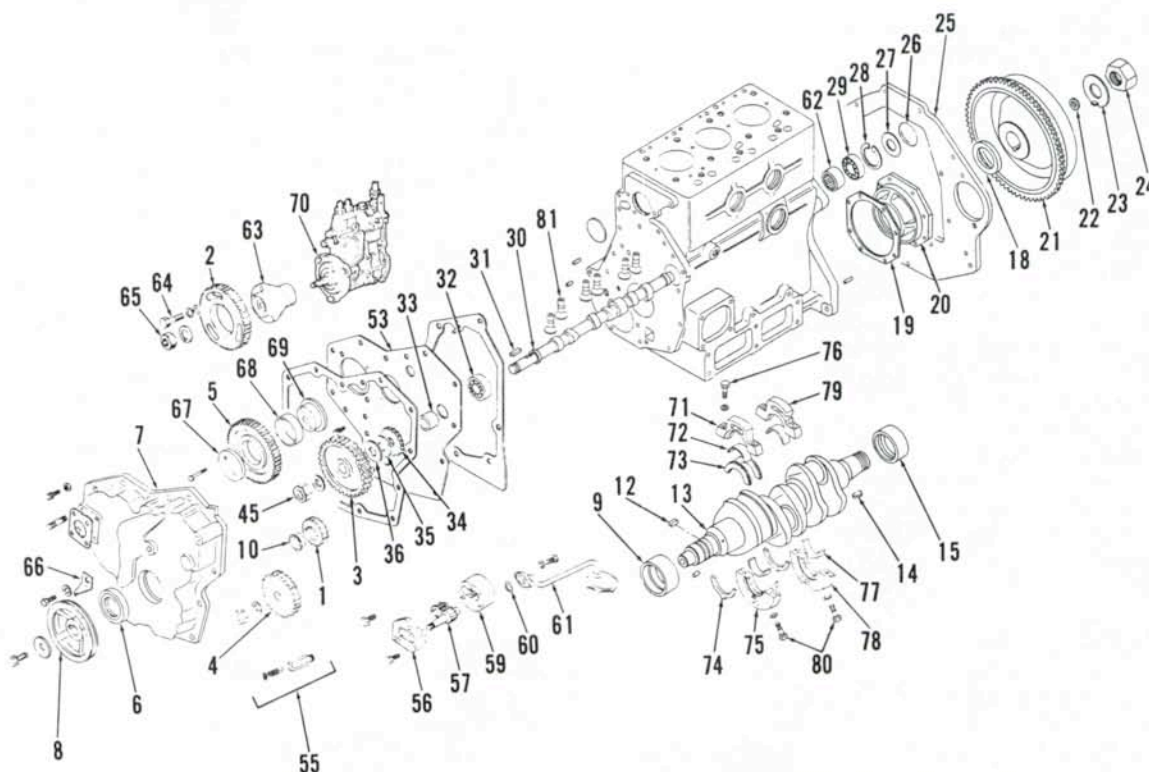

Fig. 65—Exploded view of Model 1900 timing gears and related parts. Models 1500, 1510, 1700, 1710 and 1910 are similar.
35. To remove timing gear case (7—Fig. 65), first drain cooling system and engine oil. Remove the radiator and cooling fan. Remove the alternator assembly. On 1510 and 1710 models, remove the water pump. On 2110